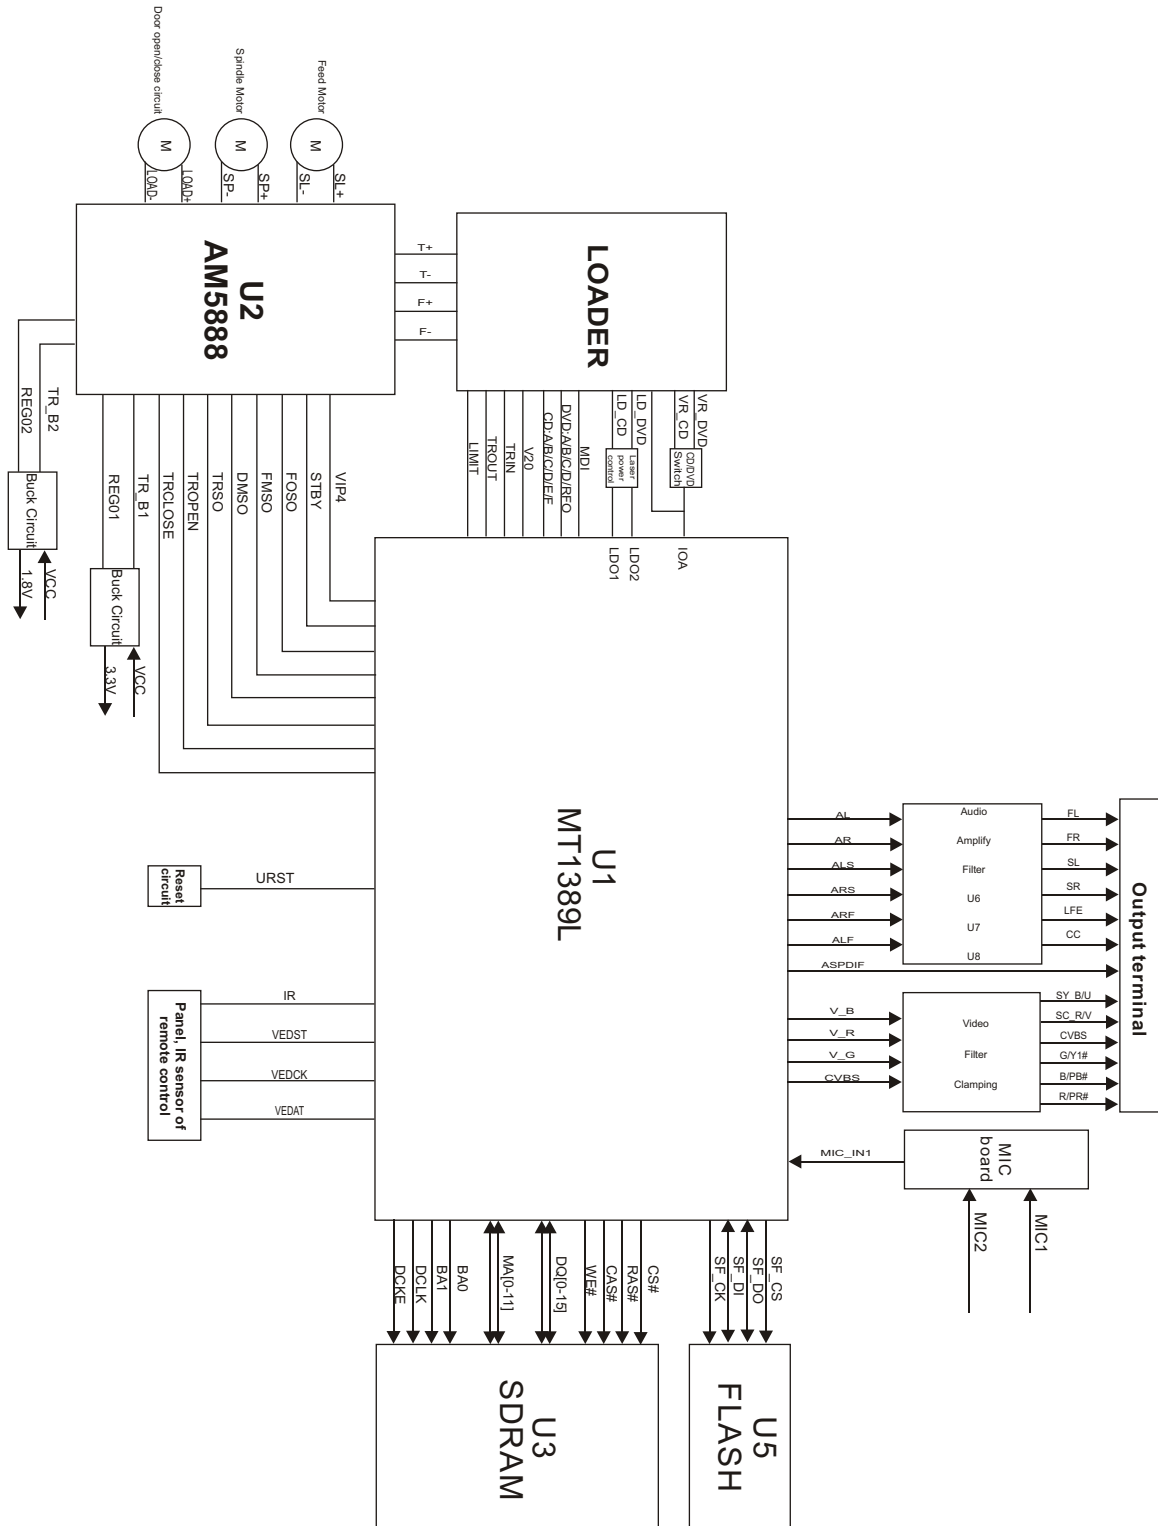

Figure 3.2.1 Block diagram of DV611SI(RU)
Block diagram for DV611SI(RU) player is shown in figure 3.2.1.